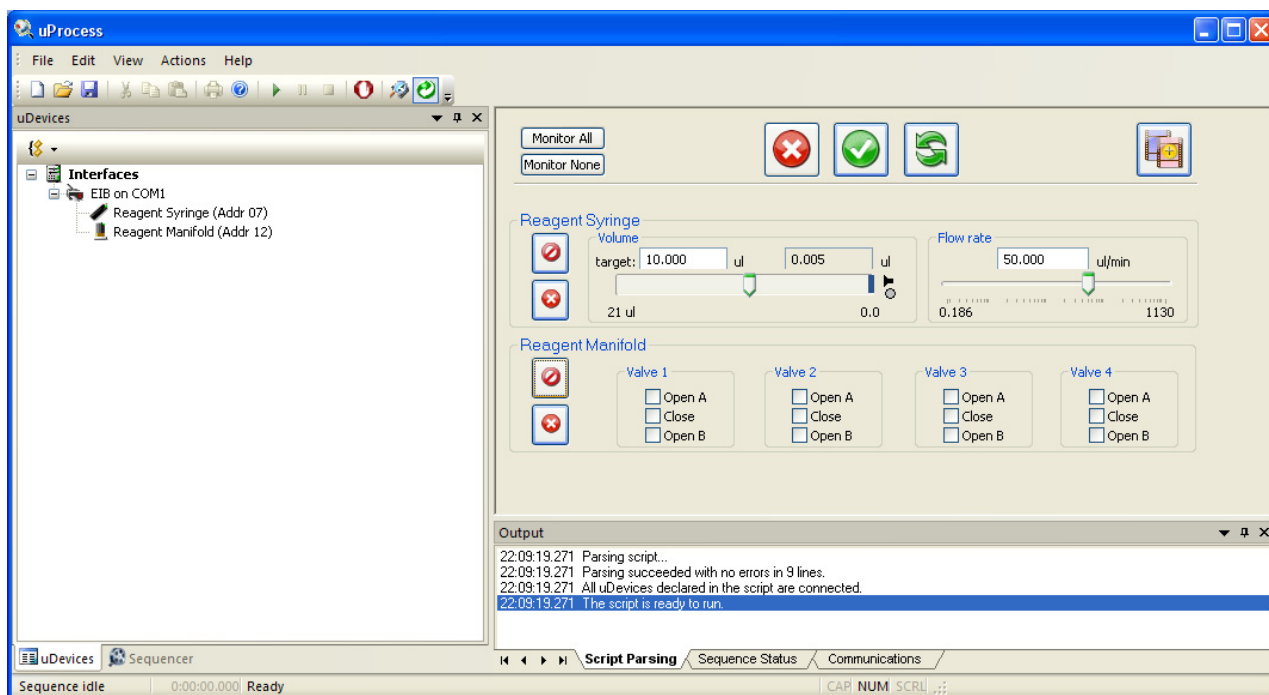

Figure 28. Step “Fill_Syringe” Settings.
8. Set the **Target Volume** for the syringe named “Reagent Syringe” to 10 µl and the Flow Rate to 50 µl/min (Figure 28).